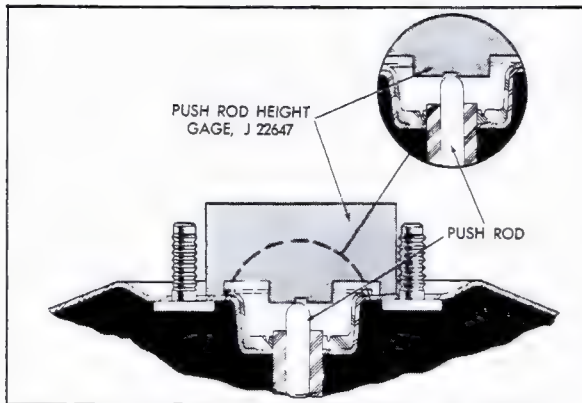

Fig. 5-27 Checking Pushrod Height
34. The center section of the gage has a go and a no-go level. The push rod end should touch the no-go level of the gage, but should not touch the go level. Move gage from side-to-side to check push rod height, Fig. 5-27.